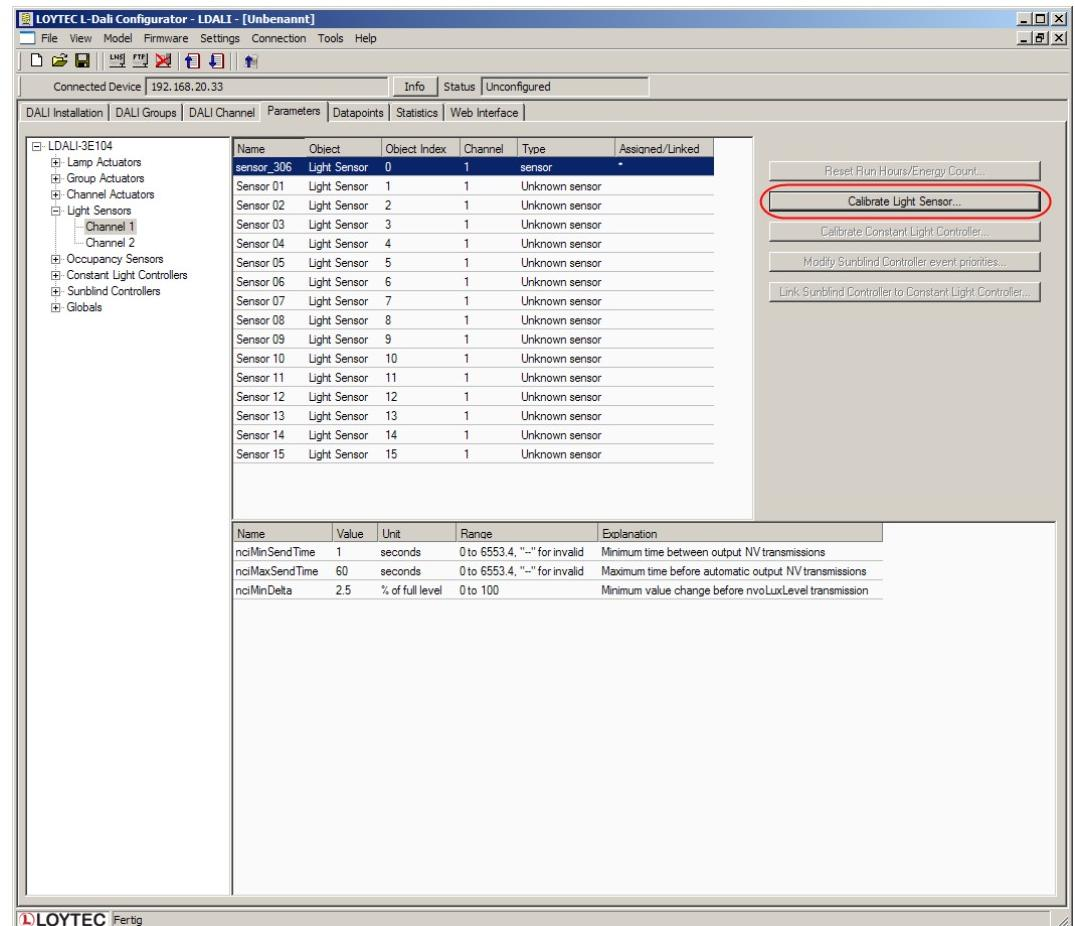
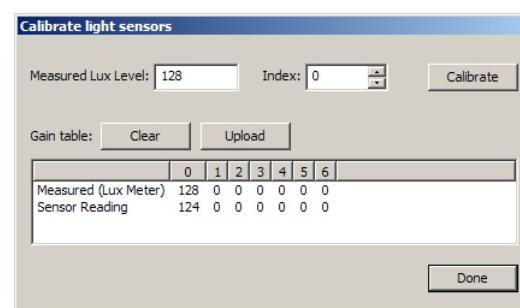

Figure 19: Parameterize Light Sensor
Figure 20: Calibrate Light Sensor
2. Select the light sensor index 0 and click on the **Calibrate Light Sensor...** button as shown in Figure 19. The light sensor calibration window as shown in Figure 20 in displayed.